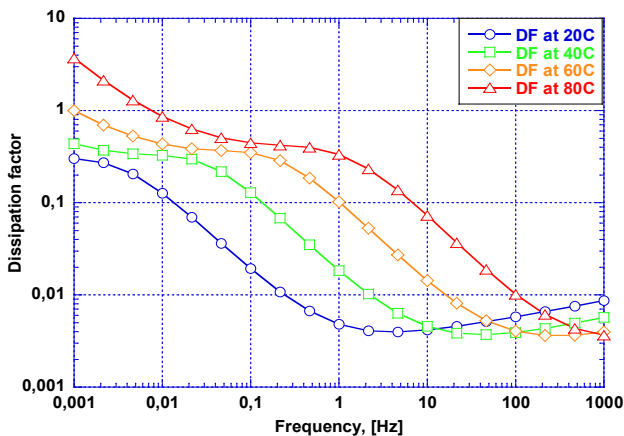
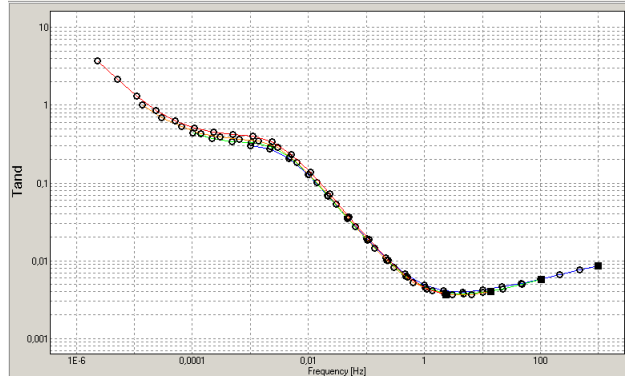
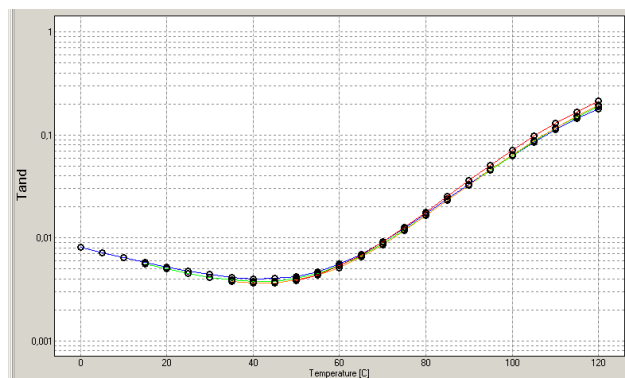

Figure 1. DFR of dry mass-impregnated Kraft paper at different temperatures.
Figure 2. Master curve at 20°C, dry Kraft paper
Figure 3. DF at 50 Hz as function of temperature (°C)
To create a master curve, you prepare the insulation sample and measure the sample at different temperatures while making sure that other entities such as moisture content is kept constant. See Figure 1. The temperatures in Figure 1 are 20°C (blue, lowest dissipation factor at 1 Hz), 40°C (green), 60°C (orange) and 80°C (red, highest dissipation factor at 1 Hz).
The curves are then shifted in frequency by using Arrhenius equation with activation energy as a single parameter and temperature as variable. Figure 2 show the master curve created from measurement data in Figure 1. The activation energy is 0.9 eV.
Since the master curve now describe the relation between frequency and temperature, dielectric parameters such as the dissipation factor (DF) at 50 Hz can now be plotted as function of temperature [2]. See Figure 3.
For example if measure the DF at 50 Hz of the insulation material in Figure 1-3 at 40°C, the DF is about 0,004 or 0,4%, see figure 1 (or Figure 3). By measure a frequency sweep and plot it as function of temperature, the estimated dissipation factor at 20°C is about 0,005 (0,5%).